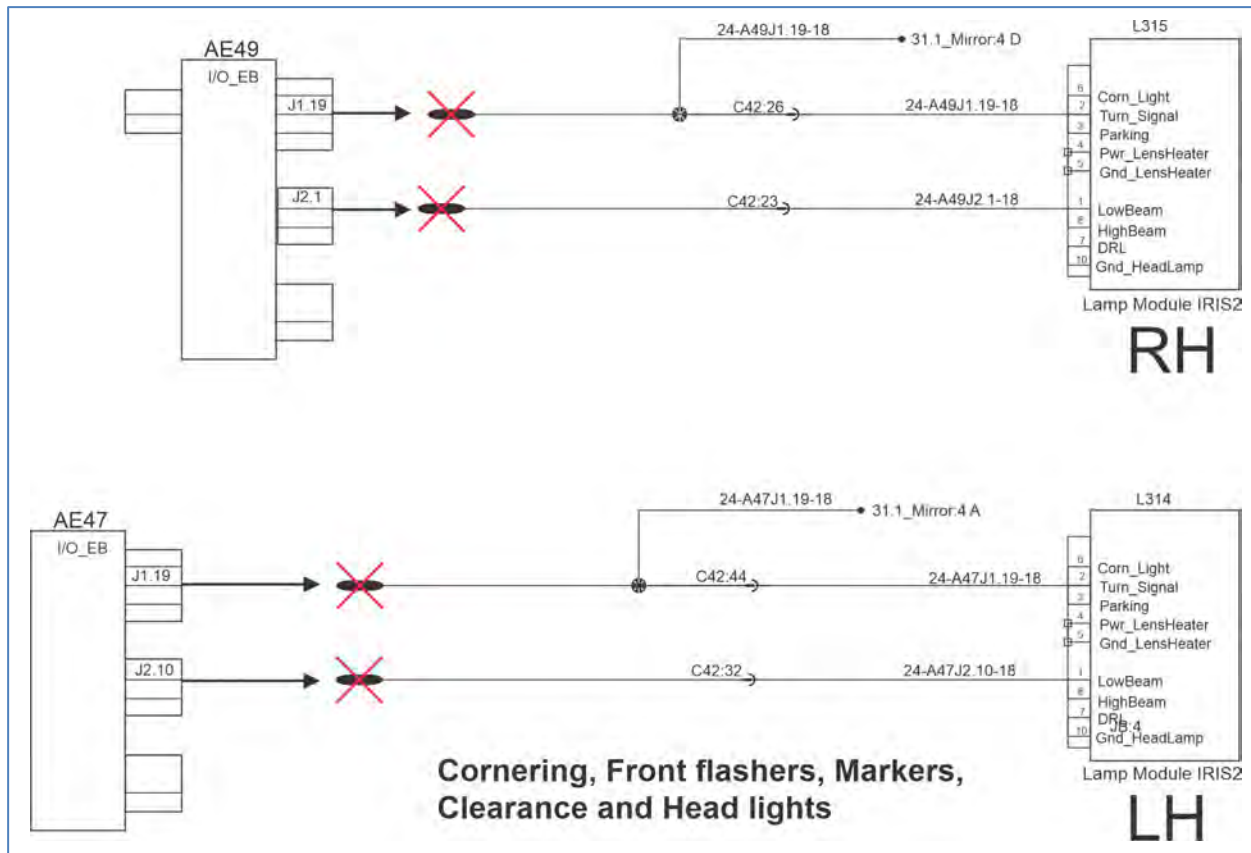

FIGURE 9
6. Disconnect the RH turn signal circuit (A49J1.19) from MUX module AE49 at J1.19. Cut and discard the terminal (Figure 9).
7. Disconnect the RH low beam circuit (A49J2.1) from MUX module AE49 at J2.1. Cut and discard the terminal (Figure 9).
8. Disconnect the LH turn signal circuit (A47J1.19) from MUX module AE47 at J1.19. Cut terminal and discard (Figure 9).
9. Disconnect the LH low beam circuit (A47J2.10) from MUX module AE47 at J2.10. Cut terminal and discard (Figure 9).